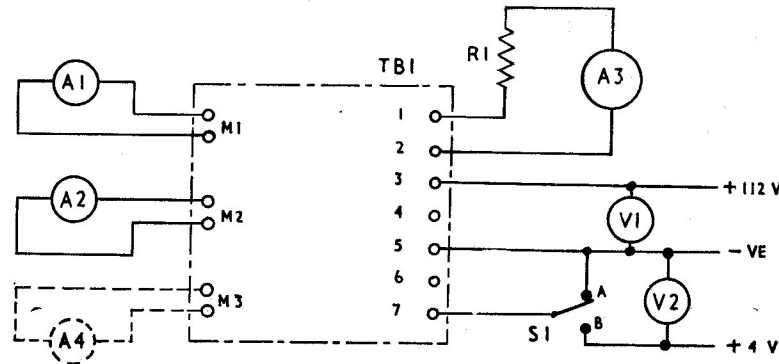

Fig. 5. Test circuit diagram
19. Connect the regulator amplifier in the circuit as shown in fig. 5 without connecting milliammeter A4 (Table 2).
(1) Switch on and adjust V1 to 112 volts with S1 in position A on fig. 5.